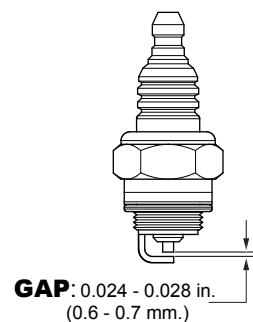

Figure 29. Spark PLug Gap
- Remove and clean the spark plug (Figure 29), then adjust the spark gap to 0.024 ~0.028 inch (0.6~0.7 mm). This unit has electronic ignition, which requires no adjustments.